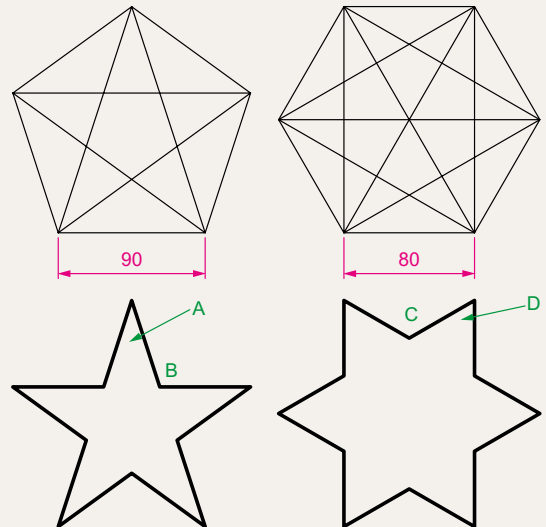

Fig. 6.30 Exercise 4
4. Construct two polygons as in Fig. 6.30 and add all diagonals. Set osnaps **endpoint** and **intersection** and using the lines as in Fig. 6.30 construct the stars as shown using a polyline of Width = 3. Next erase all unwanted lines. Dimension the angles labelled **A**, **B**, **C** and **D**.